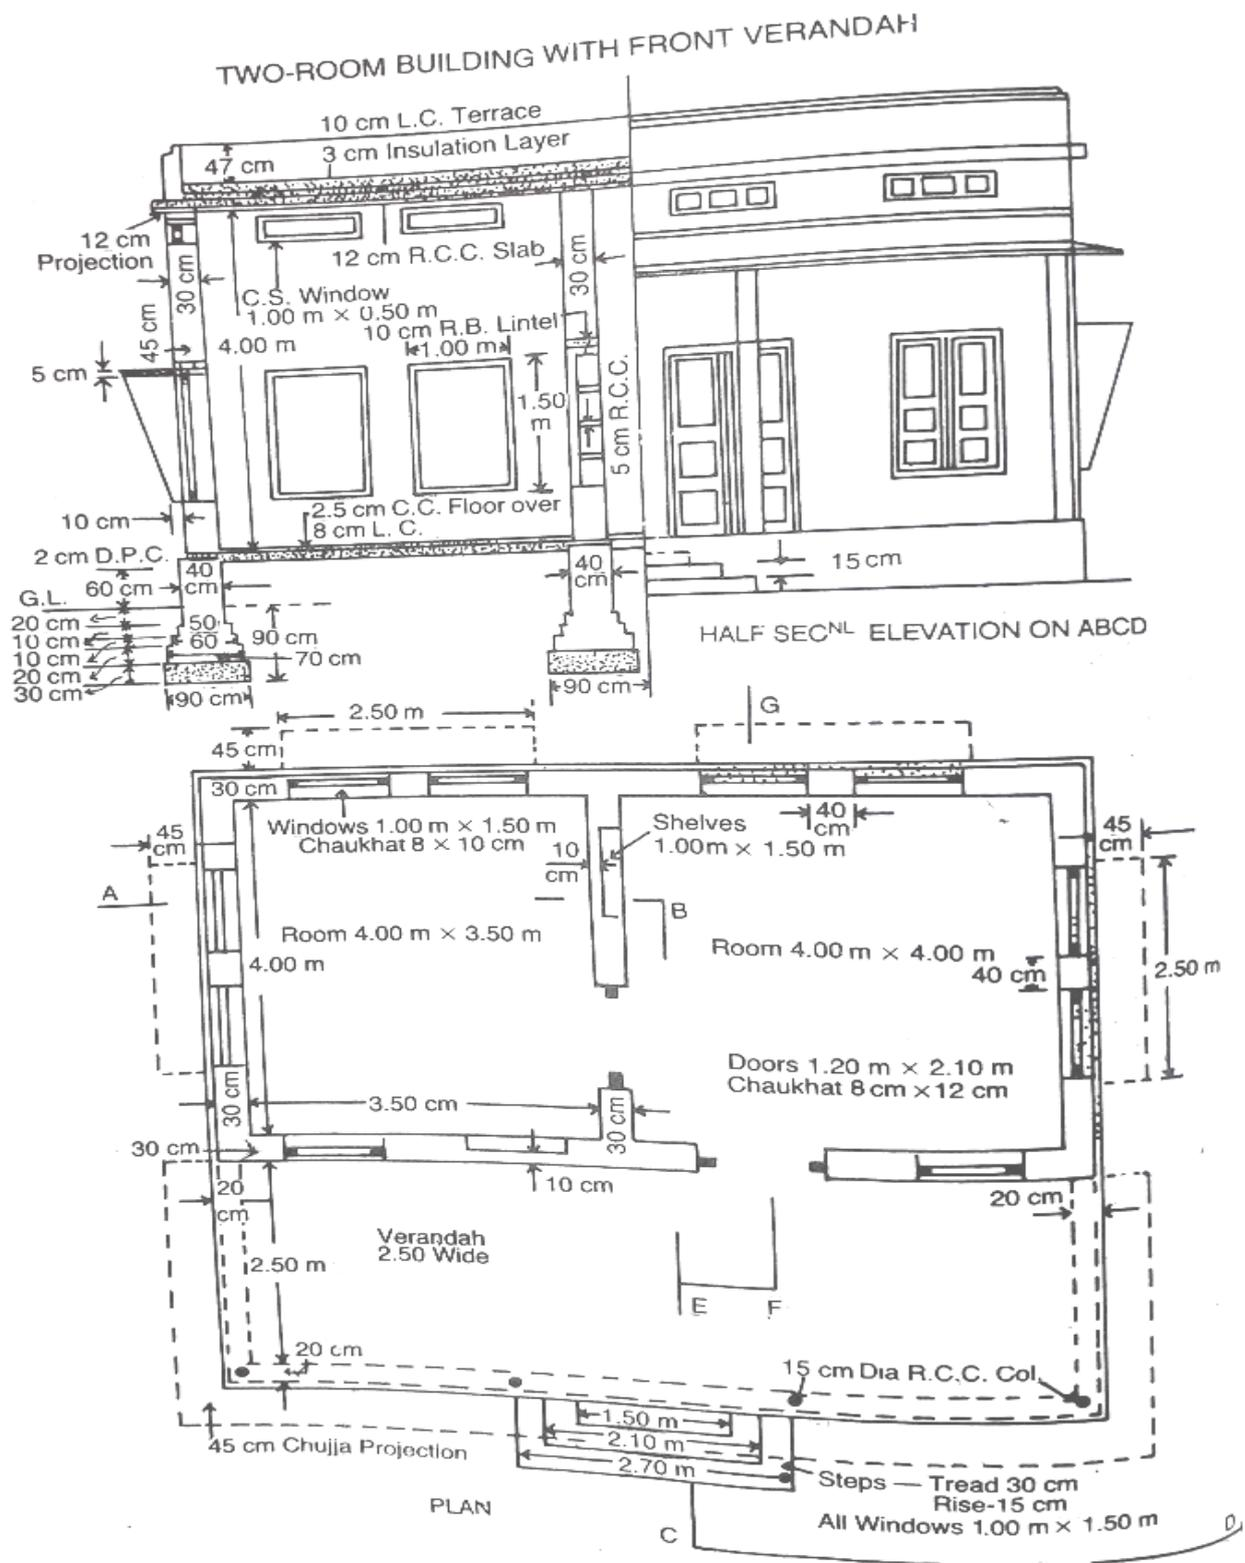

Fig. 2.
6. Estimate the quantities of following item of works from the Two-roomed Building shown in Fig. 2. i) Earthwork in Excavation in foundation, ii) Lime concrete in foundation, iii) 1st class brickwork in Foundation and Plinth in 1 : 6 cement mortar. 14M